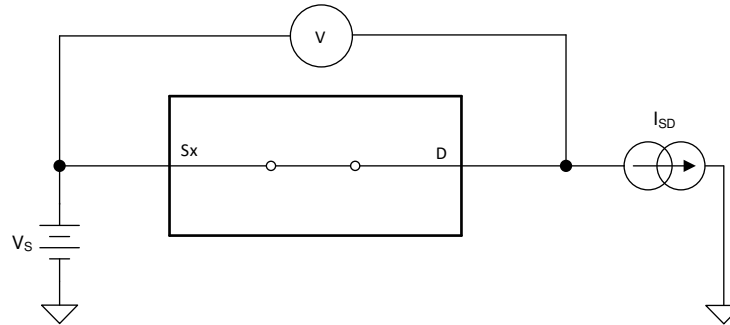

Figure 6-1. On-Resistance Measurement Setup
The on-resistance of a device is the ohmic resistance between the source (Sx) and drain (D) pins of the device. The on-resistance varies with input voltage and supply voltage. The symbol  $R_{ON}$  is used to denote on-resistance. The measurement setup used to measure  $R_{ON}$  is shown in Figure 6-1. Voltage (V) and current ( $I_{SD}$ ) are measured using this setup, and  $R_{ON}$  is computed with  $R_{ON} = V / I_{SD}$ :